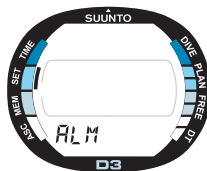

Fig. 4.6. Daily Alarm Setting Mode.
1. In the Setting Mode, press **S** two (2) times to select the Daily Alarm Setting Mode (Fig. 4.6).